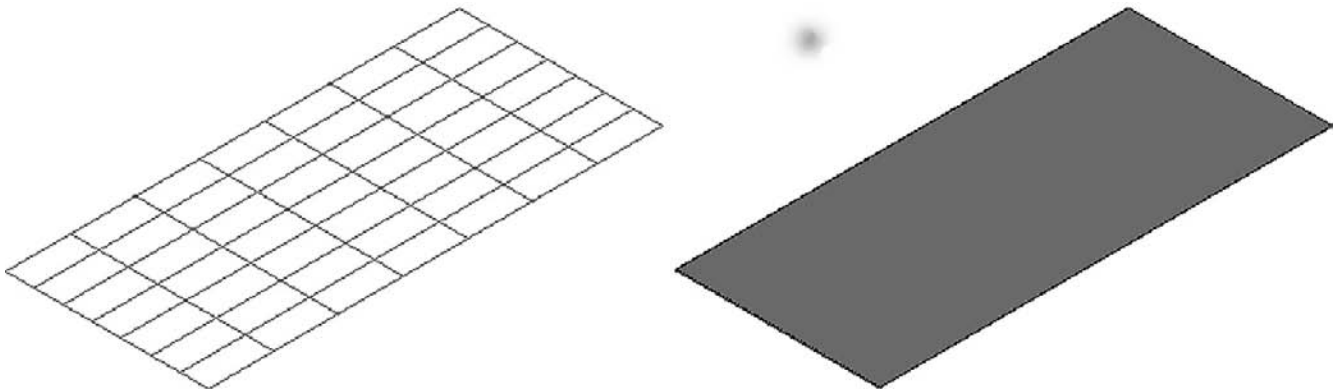

FIGURE 27.2
- Step 3.** Select the diagonally *opposite* corner of the rectangle. A surface is formed, as seen in the wireframe and shade modes in Figure 27.2.